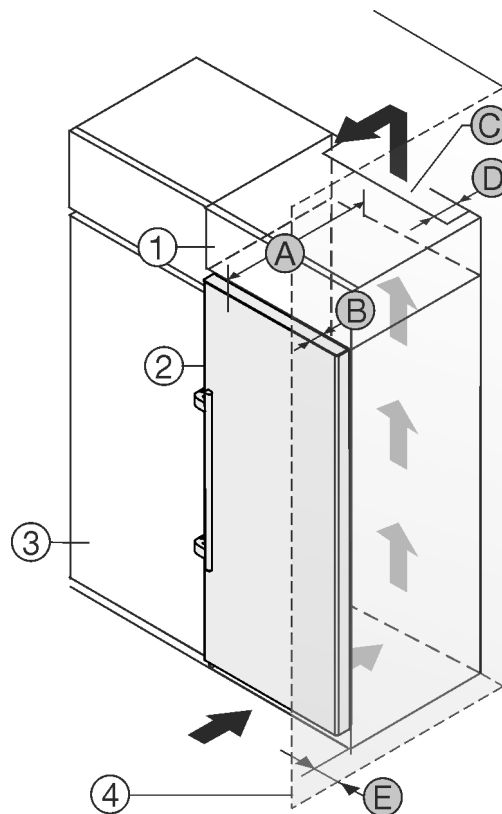

Fig. 1
- (1) Top cabinet
- (2) Appliance
- (3) Kitchen cabinet
- (4) Wall
- (B) Door depth
- (C) Ventilation cross section
- (D) Distance to the back of the appliance
- (E) Distance to the side of the appliance
- (A) Appliance depth
You can place the appliance directly beside the kitchen cabinet Fig. 1 (3).
There must be a ventilation shaft at the depth Fig. 1 (D) of the back of the top cupboard over the entire width of the top cupboard.
The ventilation cross-section Fig. 1 (C) must be maintained under the ceiling.
If the appliance is set up with the hinges next to a wall Fig. 1 (4), the distance between the appliance and the wall must be at least 57 mm. This is how far the handle protrudes when the door is open.
In order to be able to fully open the door, the appliance must protrude by the depth of the door *Fig. 1 (B)* from the front of the kitchen cabinet. The appliance may protrude further depending on the depth of the kitchen cabinets *Fig. 1 (3)* and whether wall spacers are used.